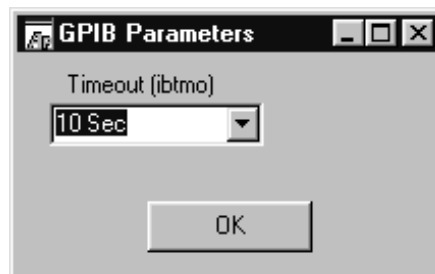

Figure 3-4. GPIB Parameters (Timeout) Panel
- **Timeout** – See Figure 3-4. This control determines the GPIB timeout for this bus (GPIB 0). You may wish to change this if the default 10 seconds is too long. An instrument will time out if the Receive button is selected but no query has been sent.